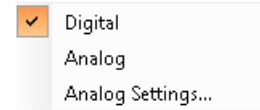

Figure 5-8: Analog Settings Dialog Box
- **Analog Settings:** Opens the Analog Setting dialog box. Figure 5-8 shows the Analog Settings dialog box with the settings for analog waveform drawing.